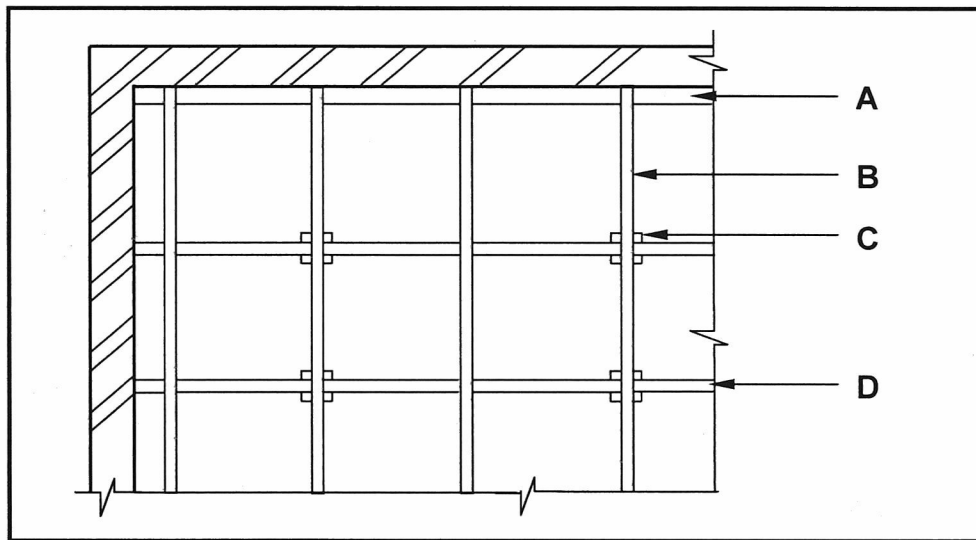

FIGURE 6.2
- 6.2 FIGURE 6.2 below shows part of the floor plan of a suspended timber floor. Study the drawing and name parts A to D.
- 6.3 Justify why the concrete base under part C in FIGURE 6.2 should be wider than part C. (1)